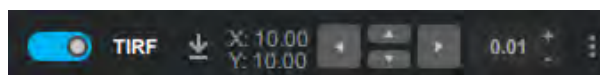

Figure 11.12.7: Figure: TIRF illumination angle settings panel in Bluelake.
6. To switch between the Widefield and TIRF modality, toggle the **TIRF** switch (see Figure 11.12.7). This will physically move the diffuser (in for widefield, out for TIRF) and adjust the TIRF mirror.